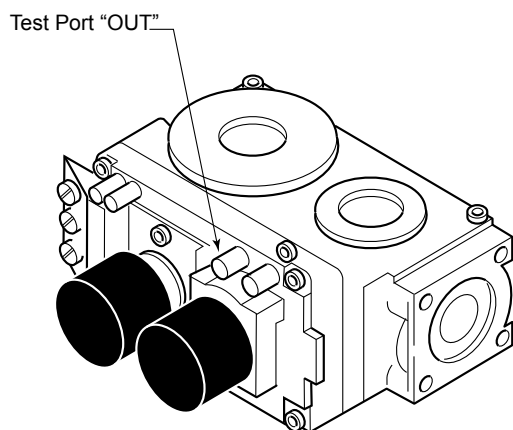

Figure 4.2 - Pressure Test Point Location Millivolt Control
- Valve pressure taps are accessible by removing the right side log. See Figure 4.2.
Turn captured screw counter clockwise two or three turns and then place tubing to pressure gauge over test point (use test point "OUT" closest to control knob). After taking pressure reading, be sure and turn captured screw clockwise firmly to re-seal. Do no over torque. Check for gas leaks. See Figure 4.2.